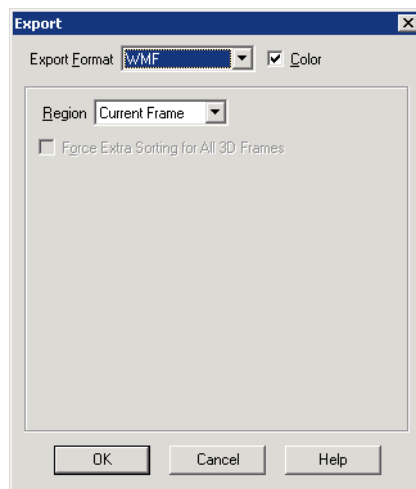

Figure 22-1. The Export dialog.
1. From the File menu, select Export. This calls up the Export dialog, shown in Figure 22-1.